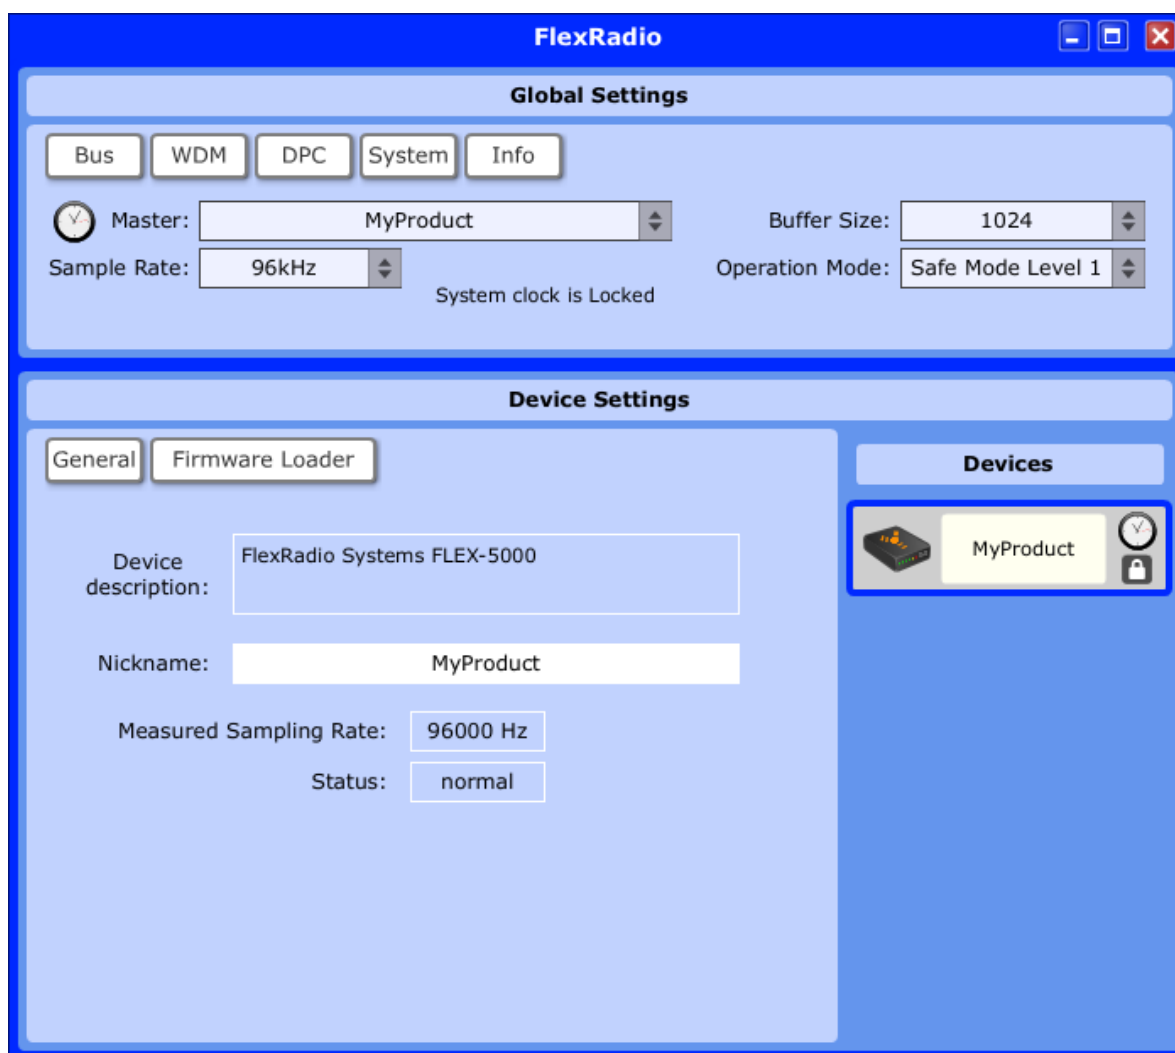

Figure 156: FlexRadio Driver Control Panel - Default View
The FlexRadio Driver comes with a Control Panel which enables you to verify and set various parameters. To open the Driver Control Panel make sure your FLEX-5000 is turned on and then double-click on the FlexRadio Driver's desktop icon you created during installation. Alternatively, click on Start → All Programs → FlexRadio Systems → FlexRadio. You will see the Control Panel as shown in Figure 156.
- ❑ **Master** displays the **Nickname** of your FlexRadio. The default **Nickname** is ***MyProduct***, as shown in Figure 156 on page 179. (You can change this to any nickname you desire by clicking on the **Nickname** displayed in the lower **Device Settings** section).
The lower Device Settings section has two buttons which act as tabs: **General** and **Firmware Loader**. (see Figure 156 on page 179).
- ❑ **Measured Sample Rate** should equal the **Sample Rate** shown in the Bus Global Sections panel (see Figure 156).